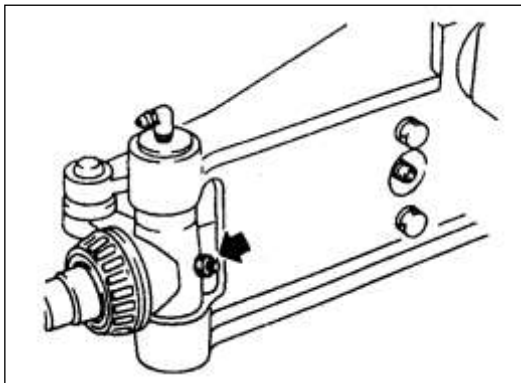

Fig. 2-2
- 2) Loose lock bolts. (See fig.2-2);